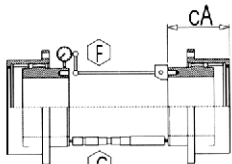
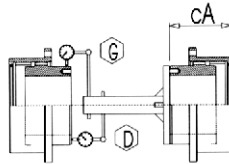
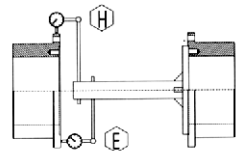

Fig.03
Fig.04
Fig.05
- H.2 Determine the angular misalignment value by processing, according to what prescribed in the scheme below, the head parallelism between the reference face surfaces of the two hubs. For gear couplings with tubular spacer or with floating shaft, check the head parallelism between the hub reference surfaces, by employing an inside micrometer positioned like **C** in Fig. 03 or a comparator positioned like **D** in Fig. 04 or like **E** in Fig. 05. The max difference between two values at 180° is  $\Delta A$ .
Determine the parallel misalignment value by processing, according to what prescribed, the mutual eccentricity between the reference diameters of the two hubs. A comparator, positioned like **F** in Fig. 03, **G** in Fig. 04 or **H** in Fig. 05, shall measure the hub eccentricity. The spacer couplings, having a long distance between gear teeth, require less alignment accuracy than the standard gear couplings. In any case, verify that the checking unit, in a 360° rotation, does not have any clearance, then measure the min. and max eccentricity. The max difference is  $\Delta P$ .